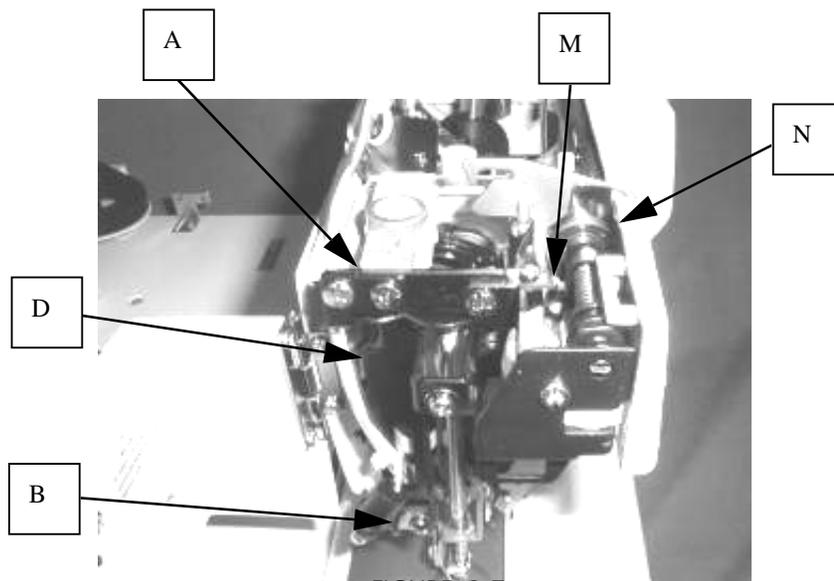

FIGURE 3-7
8. Fix front bracket(D) by setscrews (A), (B) while hooking the tip of the thread tension release plate(1) (M) to the protrusion of disk presser(N) as shown in Fig.3-7.